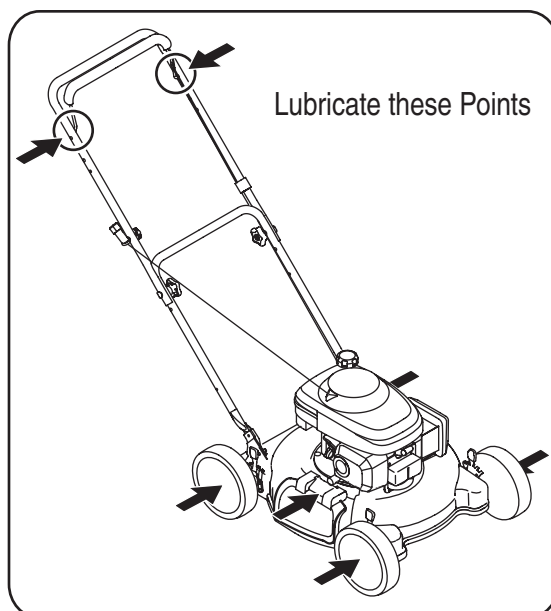

Figure 3
1. Lubricate pivot points on the blade control handle at least once a season with light oil. The blade control must operate freely in both directions. See Figure 3.
2. Lubricate the wheels at least once a season with light oil (or motor oil). If wheels are removed for any reason, lubricate surface of the axle bolt and inner surface of the wheel with light oil. See Figure 3.
3. Lubricate the torsion spring and pivot point on the chute deflector periodically with light oil to prevent rust. See Figure 3.